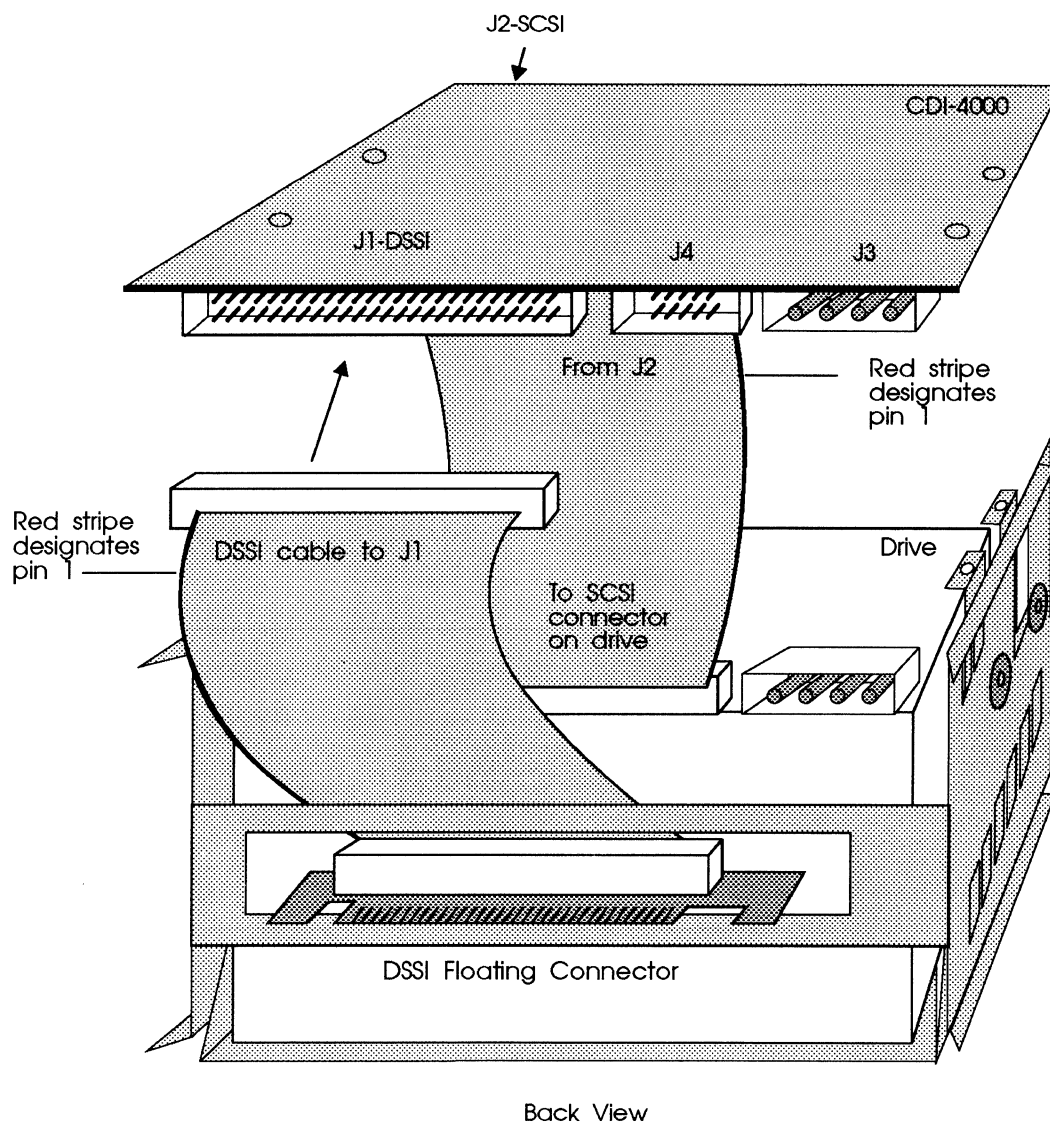

Figure 4-4: CDI-4000-SAE DSSI cable connection
- 6 Connect the DSSI cable from the floating connector to J1 of the CDI-4000. See Figure 4-4.